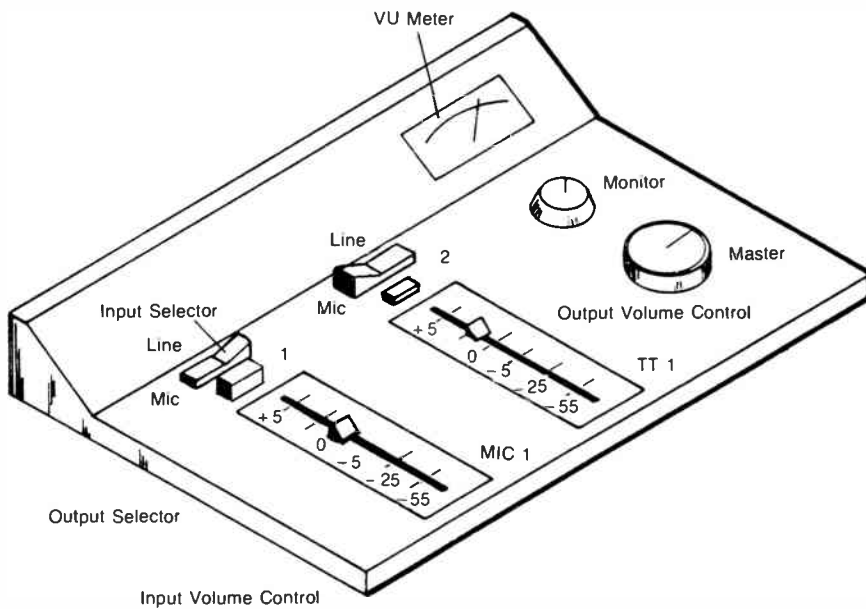

FIGURE 4.2 Simplified audio console.
All control boards operate in basically the same way. For purposes of simplicity, let's assume a very small monaural audio console with two inputs (one for a microphone and one for a turntable) and one output, which goes to the radio station transmitter. Look at Figure 4.2. This is considered a two-channel board with the microphone assigned to channel one and the turntable assigned to channel two. In general terms, a channel refers to the path an audio signal follows. On an audio console, a **channel** refers to a group of switches, faders, and knobs that are usually associated with one sound source. On this board, note the individual input selectors, output selectors, and input volume controls associated with channel one and channel two. The output volume control, VU meter, and monitor volume control are associated with both channels.
The way the input selector switches in Figure 4.2 are arranged, the microphone comes into the first (left) input and the turntable comes into the second input. This means the mic has to be patched into the first input and
The input volume controls shown in Figure 4.2 are called **sliders** or **faders**. They are merely **variable resistors**. Although they are called volume controls or **gain controls**, they do not really vary the amount of amplification of the signal. The amplifier is always on at a constant volume. Raising the fader (moving it from a "south" to a "north" position) decreases the amount of resistance to this signal. When the fader is raised and the resistance is low, a great deal of the signal gets through. The dynamic is like that of a water faucet. The water volume reaching the faucet is always the same, even when the faucet is closed. When you open the faucet (decrease the resistance), you allow the water to flow and you can vary that flow from a trickle to a steady flow.
Our simple audio board has only one VU meter that indicates the volume of the sound going out (review Figure 4.2). Many boards have multiple VU meters. For example, they might have separate meters for each input. On our simple board, if the meter is peaking in the red, we would not know just by looking at the VU meter if the mic or the turntable is the culprit. But separate meters for the mic and turntable would show which had the high volume. Boards also have multiple meters if they have multiple outputs. For example, a board that is stereo will have one meter for the right channel and one for the left.
Another place that sound goes after program amplification is to the radio station transmitter. On the board in Figure 4.2, the output selectors are just on/off buttons because the only place that the signal is intended to go is the transmitter. The configuration of **output selector** buttons, however, varies from board to board. If there are a large number of outputs, six for example, then there may be six output buttons for each input. The input signal will be sent to whichever buttons are down or selected. For example, the microphone could be sent to the transmitter, the turntable to a reel-to-reel recorder, and the CD to a cassette recorder. Sometimes there are no output selectors; every input either goes out or it doesn't depending on the master volume control. Other boards have buttons labeled "send" that determine where the signal goes.
The only output volume control on our simple board in Figure 4.2 is called the **master fader** because the signal is intended to go only one place. If both output select buttons are in the down (on) position and the master fader is up, the signal will go to the transmitter. It is, of course, possible to send the microphone but not the turntable signal or vice versa. Also, if both buttons are on but the master fader is all the way down, the signal will not be transmitted.
- In Figure 4.2, if the fader were at -5 and you changed it to -25 , you would have _____.
- In Figure 4.2, sound would not get to line out on channel one because _____.